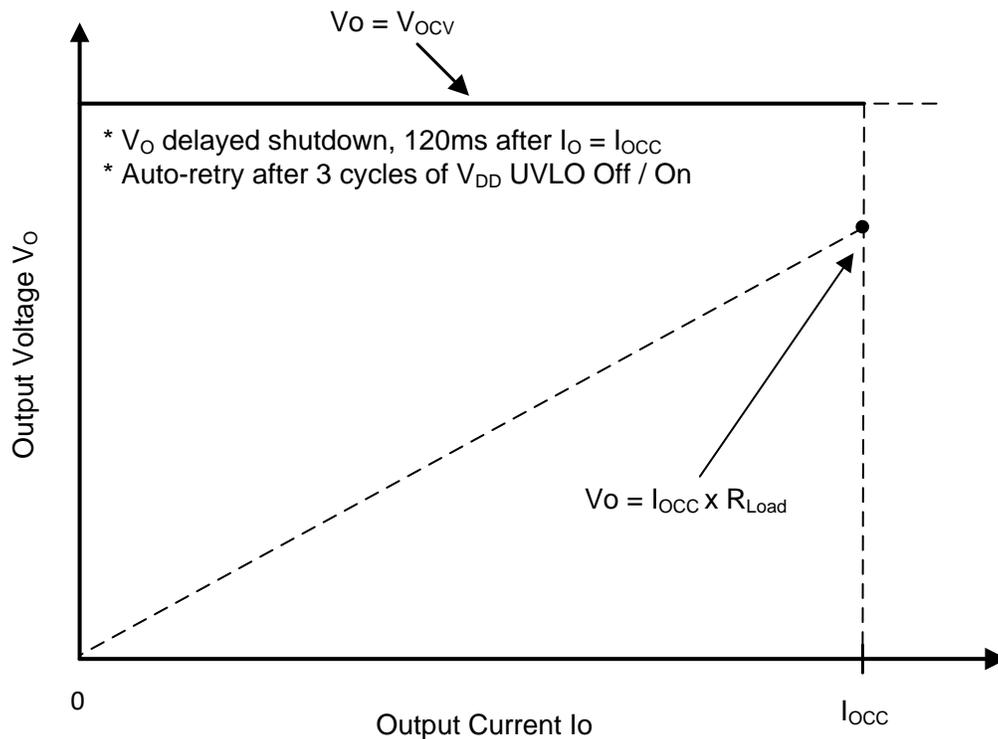
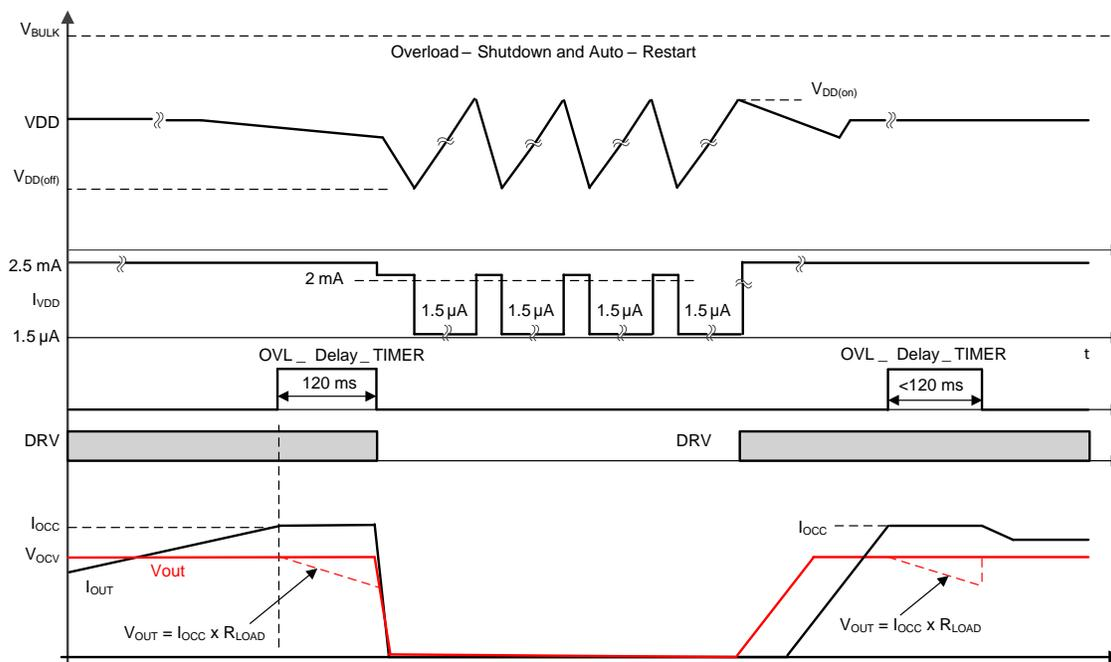

图 14. Typical Target Output V-I Characteristics
图 15. Output Delayed Shutdown Timing
As shown in 图 14 below, CV mode operation is from $I_O = 0$ to $< I_{OCC}$; at $I_O = I_{OCC}$, the operation enters constant current limit mode and V_O starts to drop as the load resistance becomes further lower while I_O is maintained at I_{OCC} for a time interval specified by t_{OVL_TIME} typically 120 ms then DRV stops to achieve converter output delayed shutdown. During the 120-ms timing interval, if load I_O reduces to $< I_{OCC}$, the timer will be reset and no shutdown will occur. The V-I curve corresponding to the operation is shown in 图 14, and the delayed shutdown timing diagram is shown in 图 15. Note (1) The timer t_{OVL_TIME} is triggered whenever I_O reaches I_{OCC} and reset when I_O drops to $< I_{OCC}$ before 120ms-time-out. (2) during 120-ms time interval, when load resistance becomes so low during constant current interval that causes the device VDD to reach its $V_{VDD(off)}$ and then the shutdown will be through VDD undervoltage lockout instead of through Constant Current Limit and Delayed Shutdown. In such a case, the shutdown can happen before 120ms timer out.
The auxiliary winding to secondary winding transformer turns-ratio (N_{AS}) is determined by the lowest target operating output voltage V_{OVL} at current limit and above the $V_{DD(off)}$ of the UCC28742. The output voltage reaches V_{OVL} when output current reaches its limit I_{OCC} ; V_{OVL} is determined by I_{OCC} and the expected minimum load resistance R_{LOAD} at I_{OCC} , *i.e.*, $V_{OVL} = I_{OCC} \times R_{LOAD}$. Note that V_{OVL} can only be maintained within typical 120ms, and after that time, the output voltage will enter the cycle of shutdown and auto-start retry, as described in Constant Current Limit and Delayed Shutdown, and shown in 图 14 and 图 15. There is additional energy supplied to VDD from the transformer leakage inductance energy which may allow a slightly lower turns-ratio to be used in a design. The N_{AS} is then determined by the below equation.